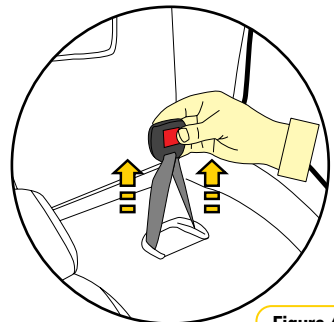

Figure 4
Step 5: Lift the buckle to verify the buckle height (refer Figure 4) try to keep the buckle height "low".
Step 4: Push down on the base of the restraint (with knee or hand) whilst pulling the sash section of the vehicle belt firmly up in direction of the blue arrow in Figure 4. (This will tighten the lap belt across the restraint base).